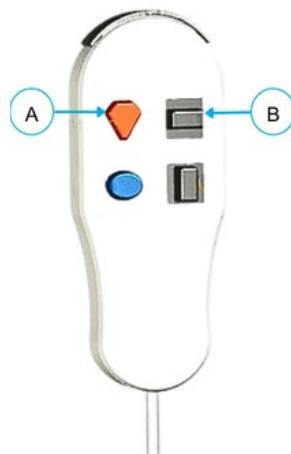

Figure 11-17: Controller Buttons
3. Push upward on the Needle Advance/Retract Button (**B**) on the Controller to deploy the Needle (**Figure 11-17**).